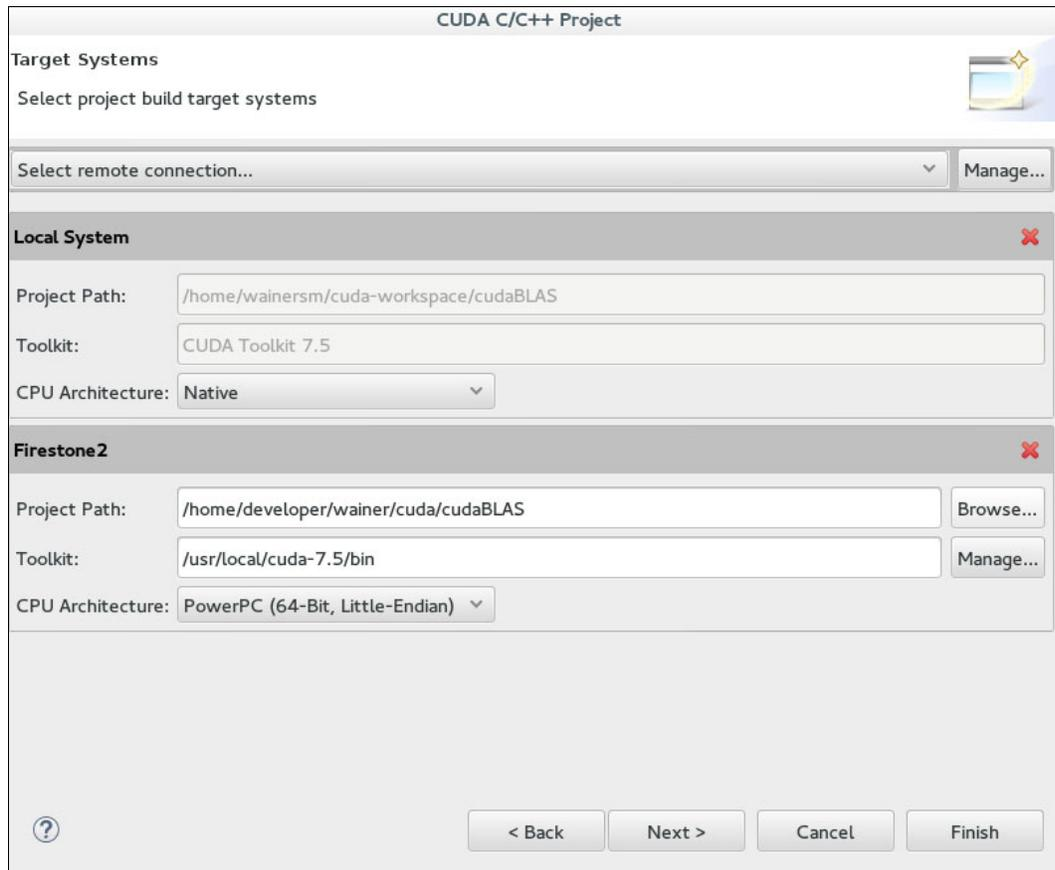

Figure 4-35 Nsight - new CUDA C/C++ project further remote configuration setup
6. Enter the Project path and Toolkit information and set the CPU Architecture fields for the newly created connection (see Figure 4-35). You must remove the Local System configuration. Click **Next**. Then, click **Finish**.